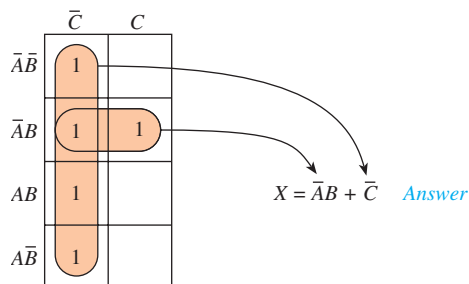

Figure 5-89 Karnaugh map and final equation for Example 5-28.
1. Construct an eight-cell K-map (see Figure 5-89), and fill in a 1 in each cell that corresponds to a term in the original equation. (Notice that $\overline{A}B$ has no C variable in it. Therefore, $\overline{A}B$ is satisfied whether C is HIGH or LOW, so $\overline{A}B$ will fill in two cells: $\overline{A}B\overline{C} + \overline{A}B\overline{C}$.)